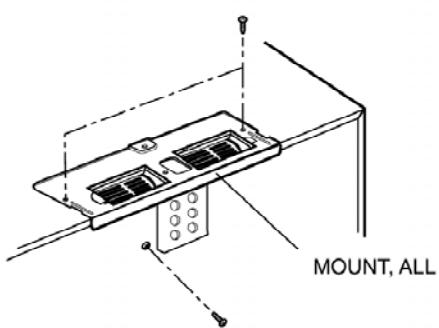

Figure 17
- (2) Remove the two screws securing the MOUNT, ALL and one screw securing the ventilation fan ASS'Y.(See Figure 17)